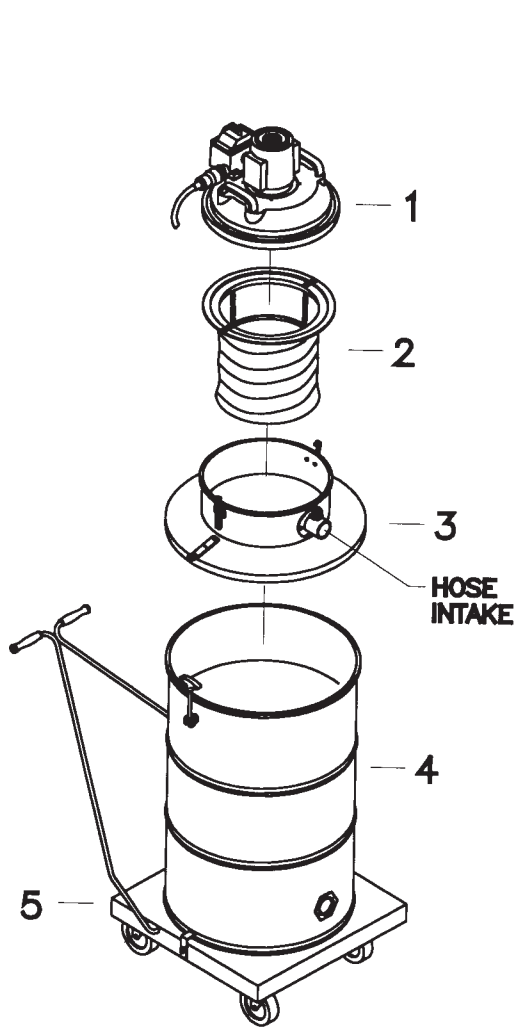

FIG. 1
7. Do not operate without proper static dissipating dust bag or filters in place, nor assemble any other way than as shown in figures 1 or 2.
Follow assembly sequence as shown on page 4, figure 1: